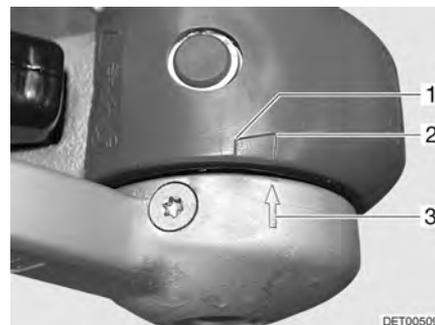

Fig. 199 Friction pads
- If the arrow on the pressure pad (Fig. 199,3) is in front of or on the marked surface (Fig. 199,2), then the friction pads are still in good condition.
- If the arrow on the pressure pad is within the marked surface (Fig. 199,1 to 2), then the friction pads are slightly worn.
- If the arrow on the pressure pad is at the end of the marked surface (Fig. 199,1) or exceeds it, then the friction pads are worn.